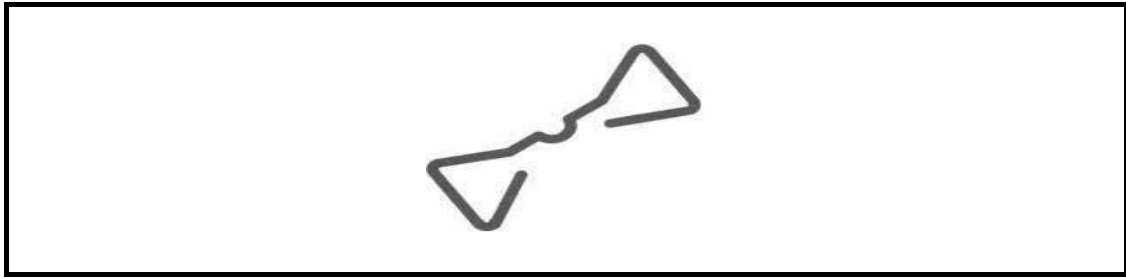

FIGURE 5.5
5.5 Identify the type of wall tie in FIGURE 5.5.